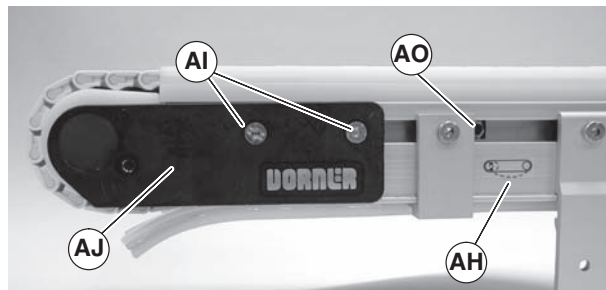

Figure 23
1. On tension end of the conveyor, identified with a  label (Figure 23, item AH), on both sides of conveyor, loosen fastening screws (AI). Insert 5mm Hex wrench into pinion gear (AO) and rotate to extend head plate assembly (AH).
3. After adjusting proper tensioning, tighten fastening screws (Figure 23, item AI) on both sides of conveyor to 60 in-lb (7 N-m).